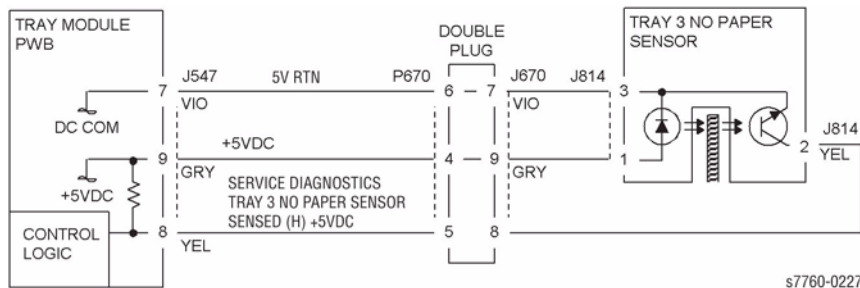

Figure 2 003-951 Tray 3 No Paper Sensor (3TM)
- Ensure that the connectors shown in the circuit diagram (Figure 1 - TTM or Figure 2 - 3TM) are securely connected and that the wires are not damaged.